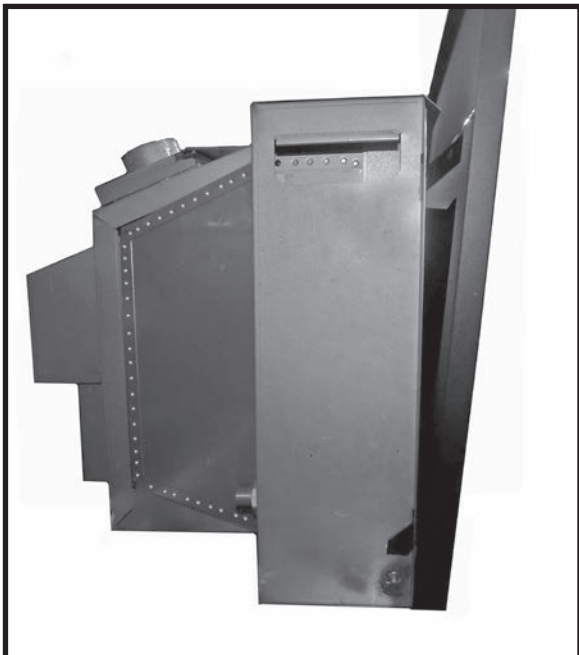

Figure 85: Mounting the backing plate.
2. Place the backing plate onto the fireplace by inserting its four hooks into the four slots on the fireplace frame (Figure 85).